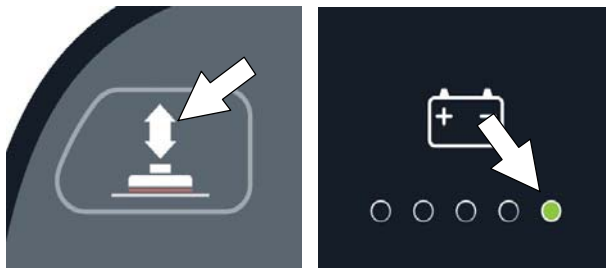
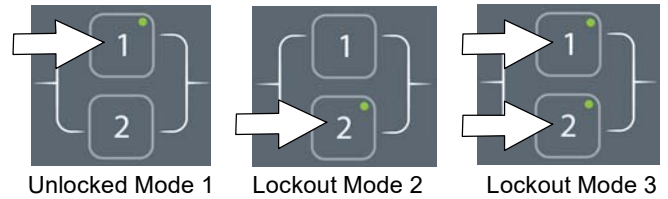

FIG. 150
FIG. 151
1. Park the machine on a level surface and turn the key to off (O) position.
2. Press and hold the brush pressure button while turning the key on. Release button when the far right battery discharge indicator LED turns on (Figure 150). After releasing button, the active supervisor control mode will display as described in step 3 (Figure 151),
3. To select or change a supervisor control mode, press and hold the specific zone control button until the LED blinks three times (Figure 151). For lockout mode 3, press and hold zone control buttons 1 and 2 at same time. After selection is made, the LED will turn solid to indicate new mode.